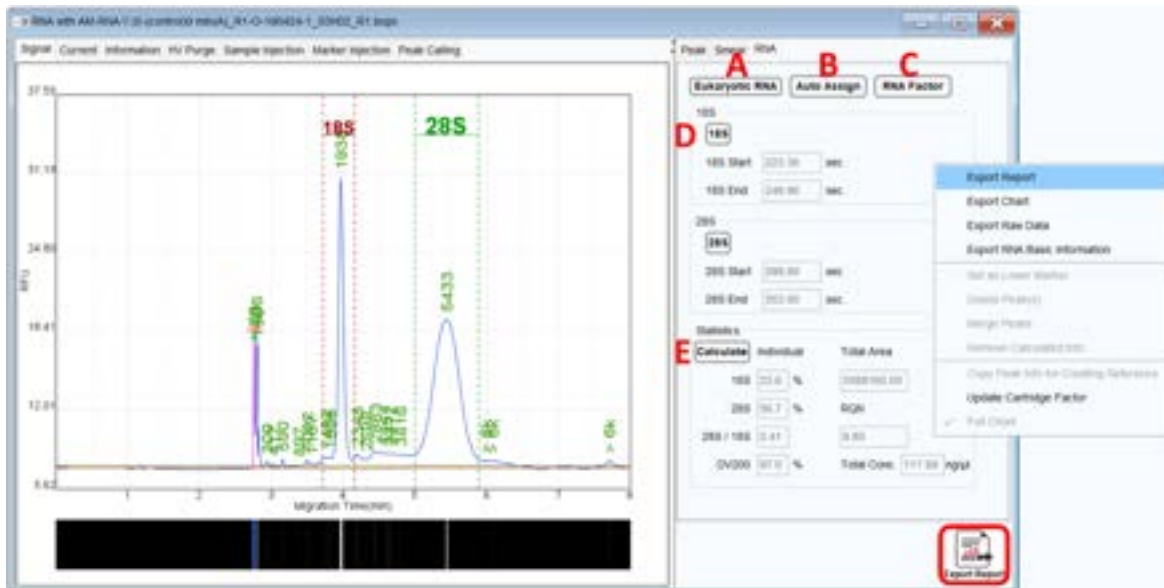

Figure 73 RNA Quality Check Panel
4. To choose either Eukaryotic RNA or Prokaryotic RNA, click on the **Eukaryotic RNA** button (Figure 73 A)
5. The systems will **Auto Assign** 18S/28S RNA (Eukaryotic) or 16S/23S RNA (Prokaryotic) based on your selection (Figure 73 B). If the margins do not properly cover the RNA area, you can manually drag them to the correct positions.
6. To save the settings, click on the **RNA Factor** button to edit and save the RNA factor table (Figure 73 C).
7. By clicking the 18S and 28S or 16S and 23S buttons, you can either hide or show (by default) the rRNA assignment on the electropherogram (Figure 73 D).
8. Click on the **Calculate** button, and the 28S/18S or 23S/16S ratio, along with the RQN (RNA Quality Number) will be displayed (Figure 73 E).